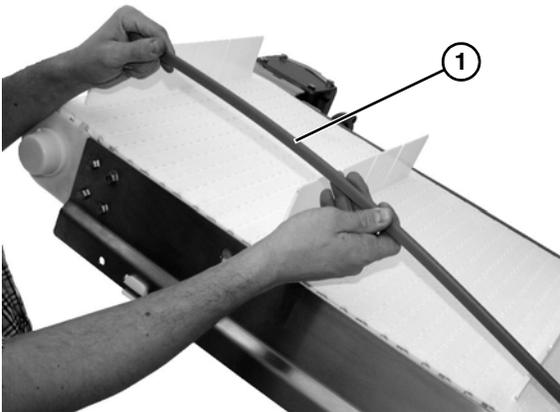

Figure 34
1. Remove worn bar cap (**Figure 34, item 1**) by lifting off of conveyor side rail.